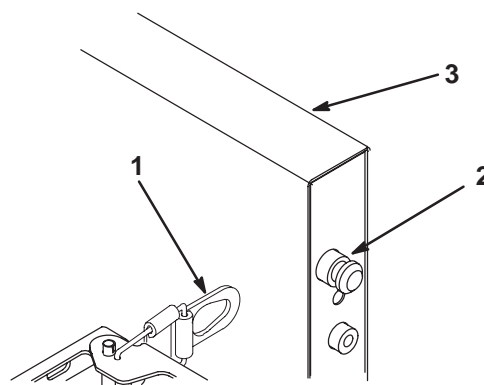

Figure 6
12. Open tailgate latch assemblies and hook latch plates over upper tailgate pins on both sides (Fig. 6). Make sure that the latch plates are seated all the way in the grooves on the pins.